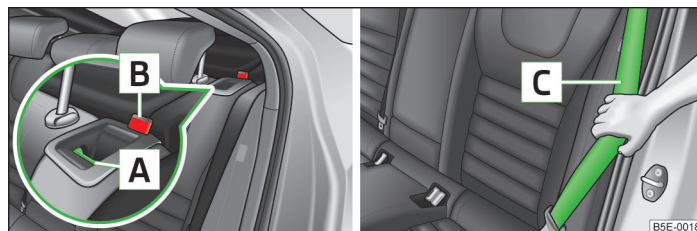

Fig. 55 Seat backrest: Locking/unlocking
- Push the lever **[A]** » Fig. 55 and fold the seat backrest completely forwards.